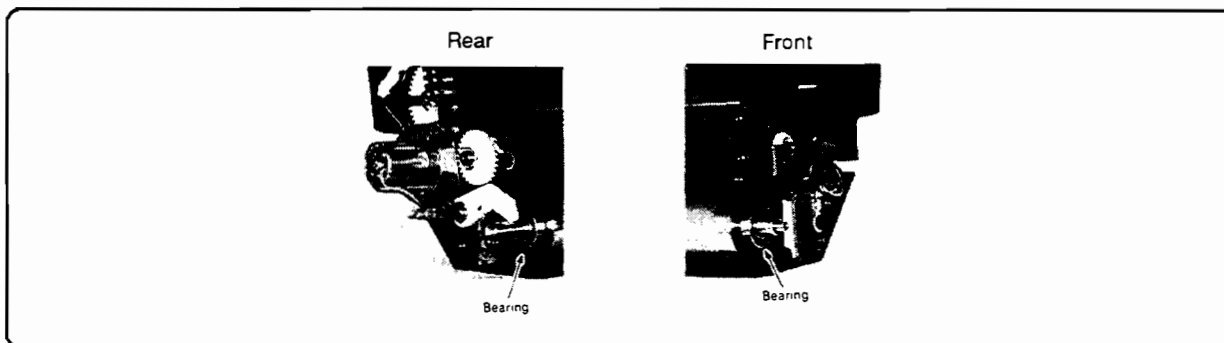

Figure 6-66. Developer Bearing Locations
10. Remove the right and left ball bearing and detach the developing cylinder (Figure 6-66).